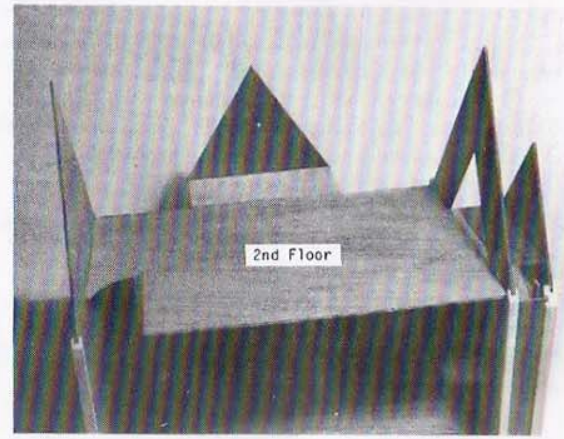

Figure 14
15. Glue **Second Floor** in place as in Figure 14.